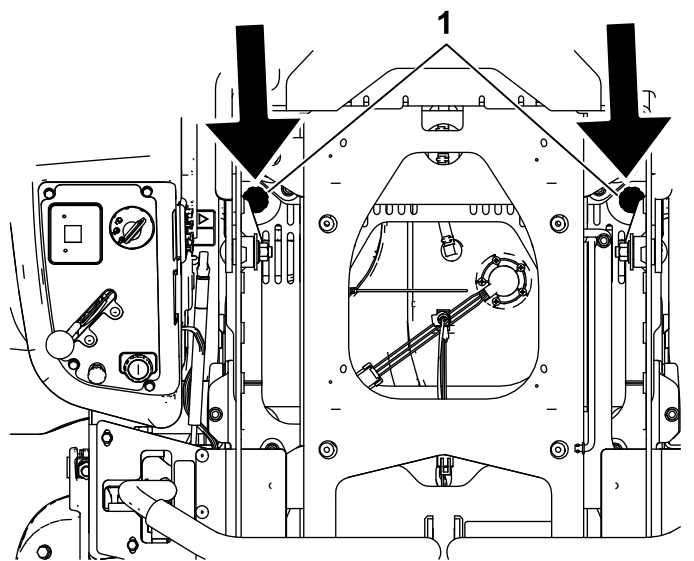

Figure 83
6. Raise the seat and clean around each dipstick and hydraulic unit (Figure 83).